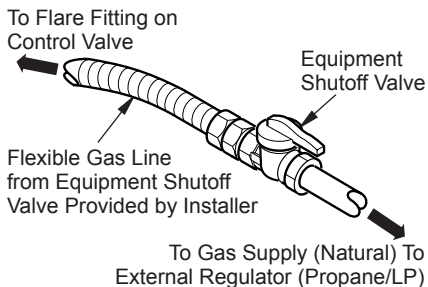

Figure 16 - Flexible Gas Line
2. Route flexible gas line (provided by installer) from equipment shutoff valve to burner system (see Figure 16). Route flexible gas supply line and attach to valve.